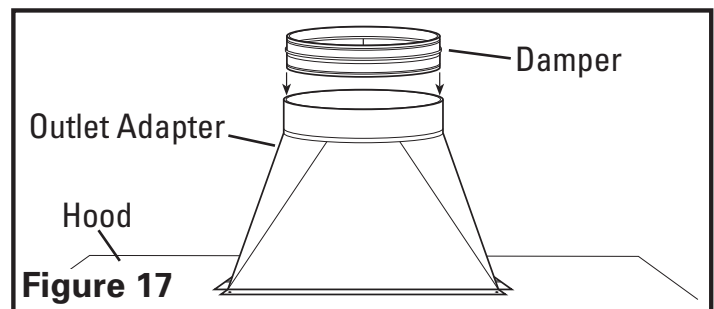

Figure 17
9. It is highly recommended that a back draft damper be installed to prevent outside air from flowing back into the home. Choose a back draft damper (available separately) sized to fit the diameter of the outlet adapter. Attach the back draft damper into the outlet adapter, press fit it into the round opening of the adapter until it is fully seated, making sure the damper opens away from the hood otherwise airflow will be restricted (**Figure 17**).